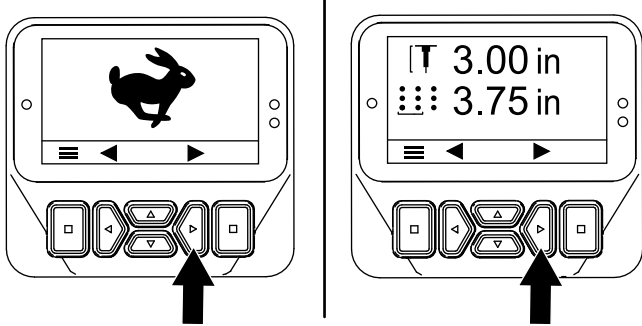
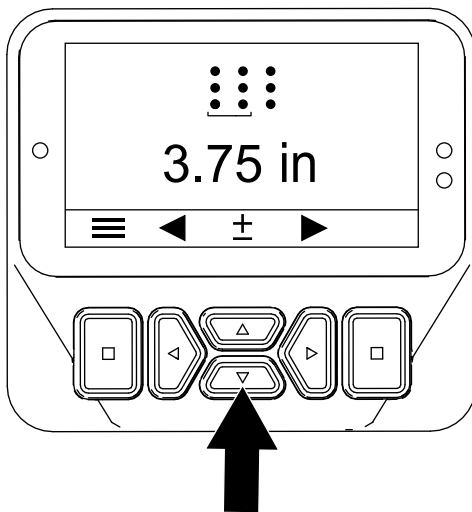

Figure 53
Figure 54
3. Press the right button until the Setting the Hole Spacing screen displays (Figure 53 and Figure 54).
4. Adjust the hole spacing (Figure 54) as follows: